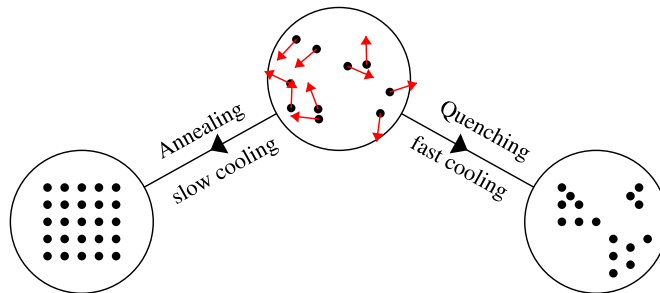

Figure 1: Representation of the physical process of annealing (figure from [1]).
We describe below the successive phases of the SA algorithm (figure 1).
The PT algorithm (figure 4), also known as *replica exchange*, is an optimization method which can be seen as a parallel version of Simulated Annealing (SA). But where the temperatures are not reduced gradually. In fact, the analog physical process in this case is the quenching (figure 1). The PT method allows the replicas at different temperatures to swap complete configurations. As a result, replicas with low temperatures are able to escape local optimas and explore other parts of the search space.